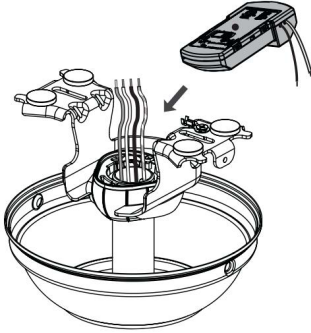

Fig. 6
**Step 1.** Insert the remote receiver to the bracket as figure 6.